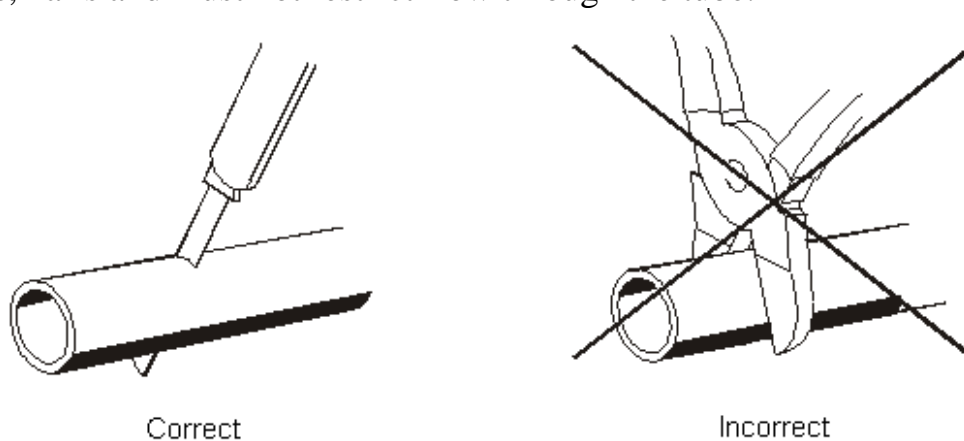

Figure 8.9 – Tube Cutting Prior to Installation
8.6.3 When installing the fuel supply line, do not allow connecting sleeves to bend. Use a sharp knife to cut the fuel tube as in Figure 8.9. The cutting location shall be free of indentations, hairs and must not restrict flow through the tube.